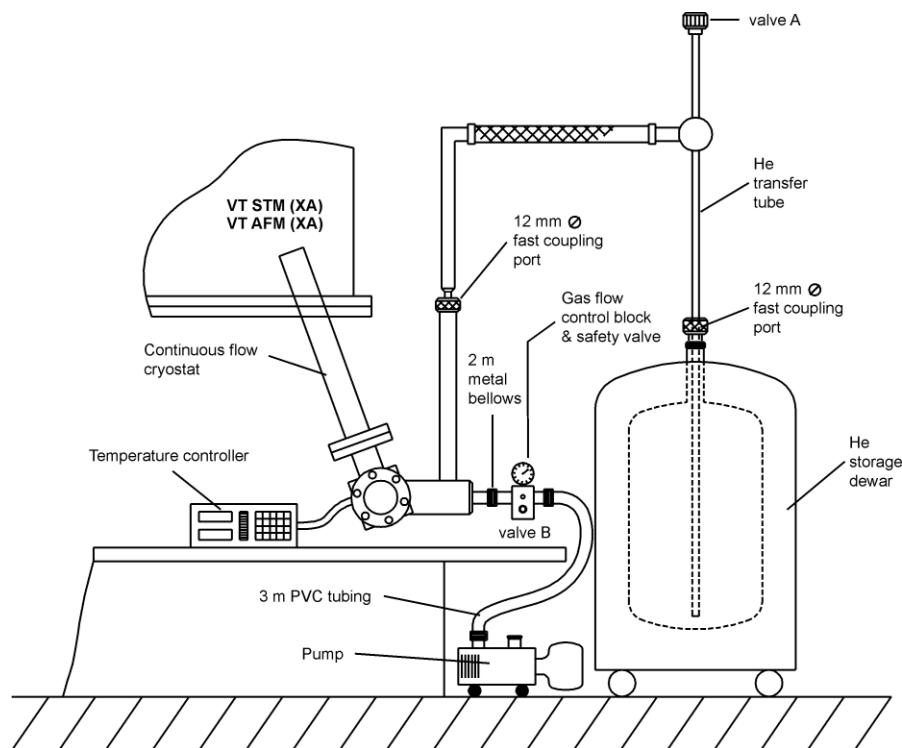

Figure 37. Schematic setup diagram for LHe cooling.
- Check the cabling and connections, see page 32 and figure 37.
1. Close all valves, i.e. valve A on the transfer tube and valve B on the gas flow control block, see figure 37.
When you are finished with your low-temperature experiment it is important to follow the indicated warm-up procedure in order to avoid pressure build-up in the cryostat or its connection tubes. For reference of parts refer to figure 37 on page 76.